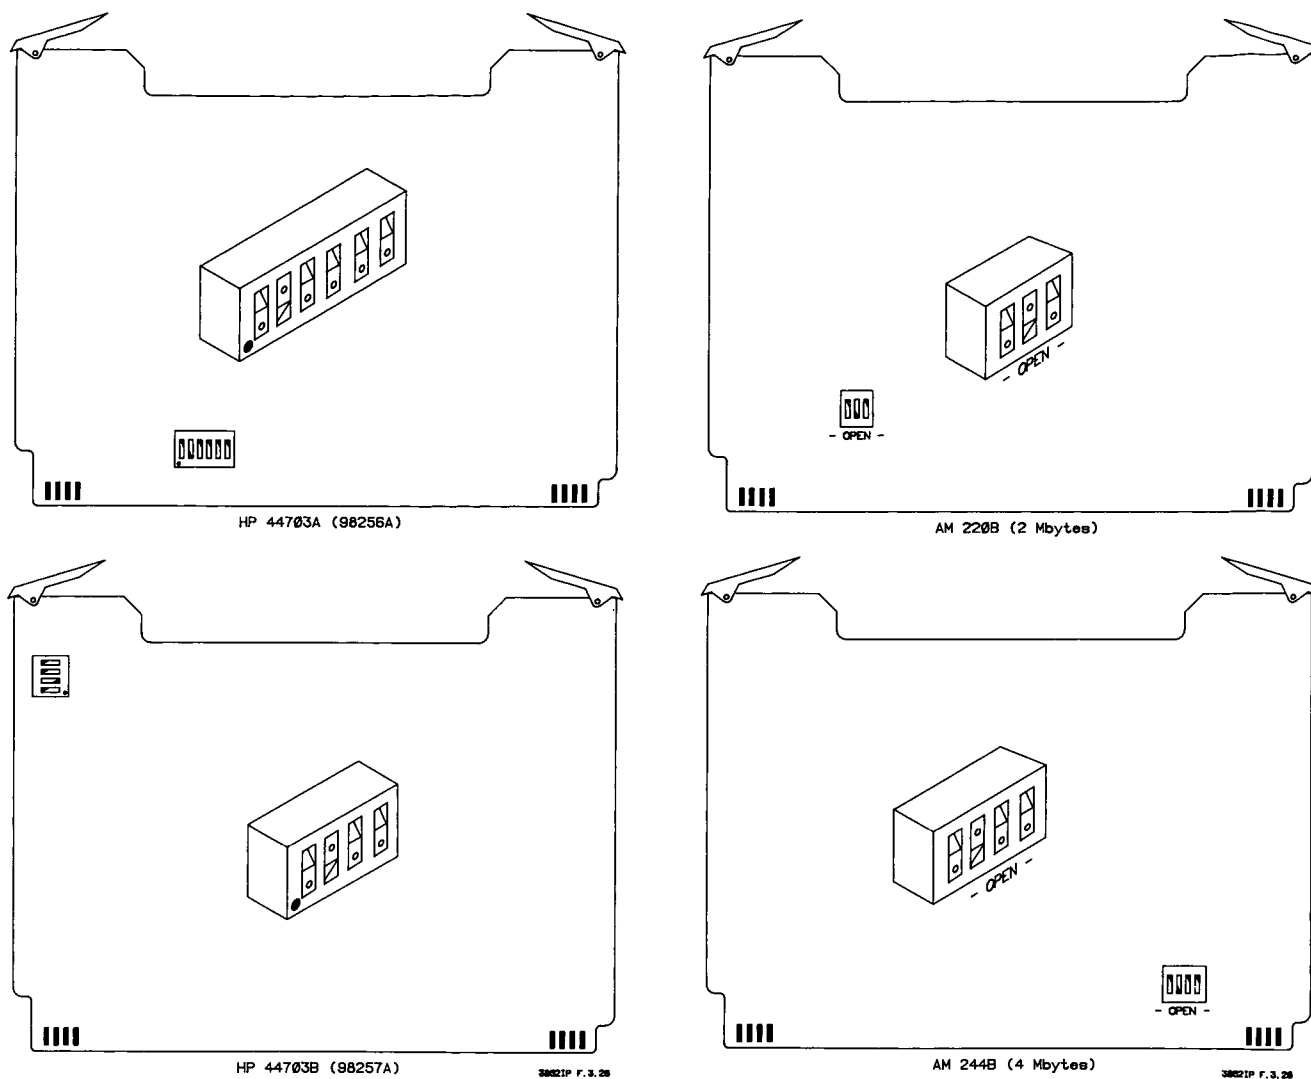

Figure 3-28. Memory Board Switch Locations and Address Settings
5. Locate the DIP switch on your particular board (Figure 3-28). Set the address as shown in the figure.